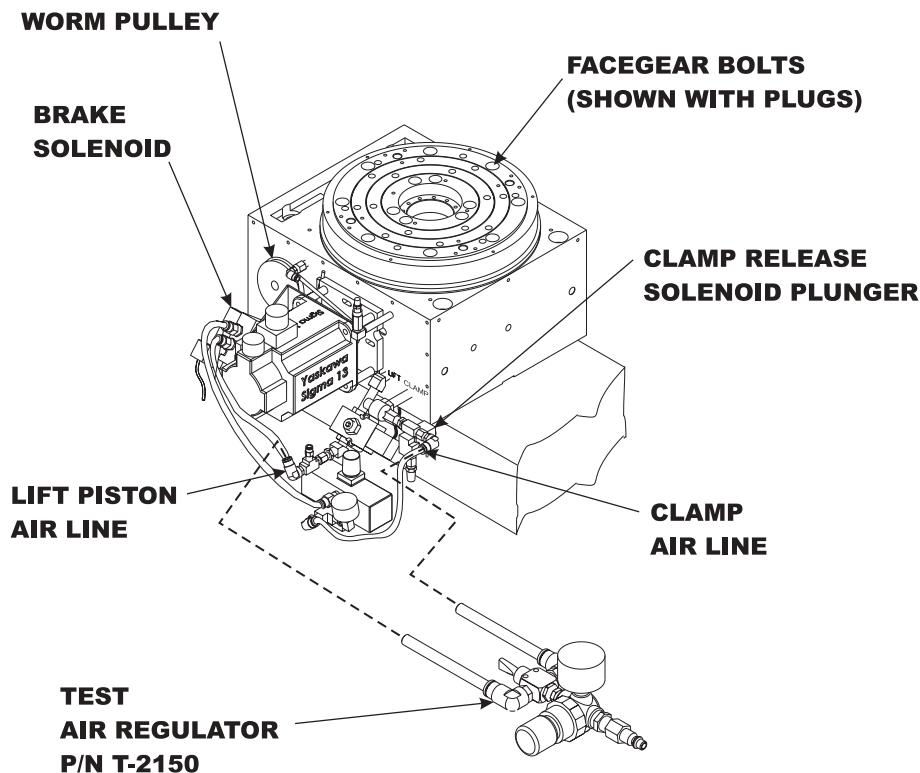

Figure 3.14-1
**When the 310FGRP is replaced in the HS-1RP, it must have the lift switch adjusted and parameter 224 set before any other machine movement is attempted!** Missalignment of the facegear at the home position, will cause malfunction. Make sure that software 11.21 or later is loaded and the table is initialized on the settings page. (This assures that all parameters are set for the 310FGRP option.) See figures 3.14-1 and 3.14-2.